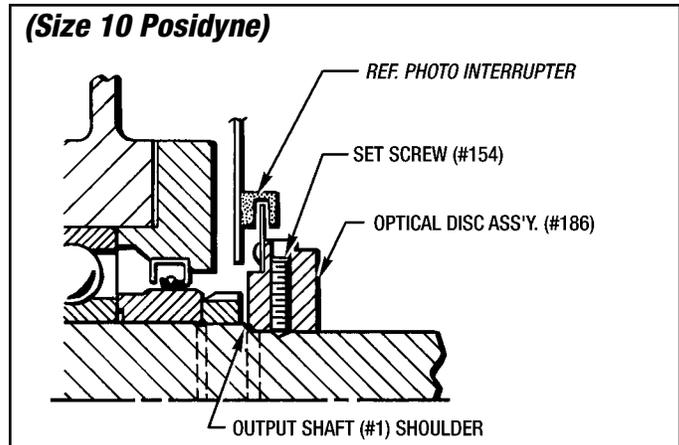
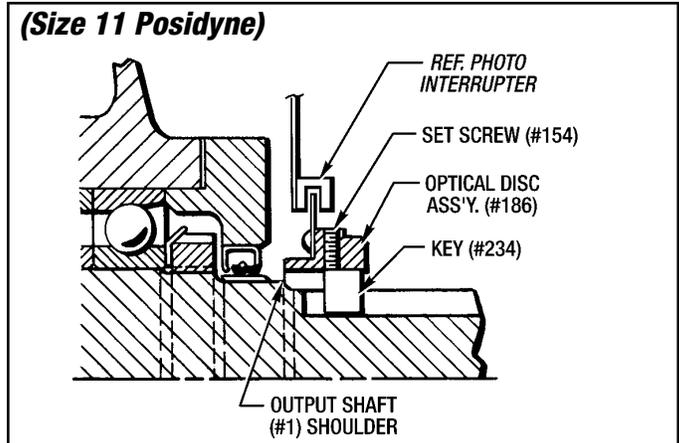

Figure 6.6 - Optical Disc and Hub Positioning (Size 10 Posidyne)
Figure 6.7 - Optical Disc and Hub Positioning (Size 11 Posidyne)
- Slide the Optical Disc Assembly (#186) onto the output shaft until it butts up against the shoulder. See *Figure 6.6* for Size 10 Posidyne and *Figure 6.7* for Size 11 Posidyne.